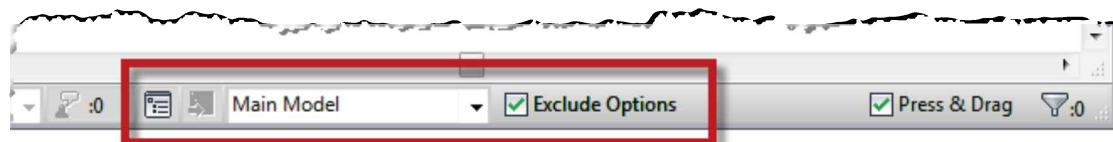

FIGURE 10-5.1A
The following images (Figures 10-5.1a and b) provide an overview of the *Design Options* dialog box and *Status Bar* tools. See Step 2 to access this dialog.
2. Click the **Design Options** icon on the *Status Bar* (Figure 10-5.1a).